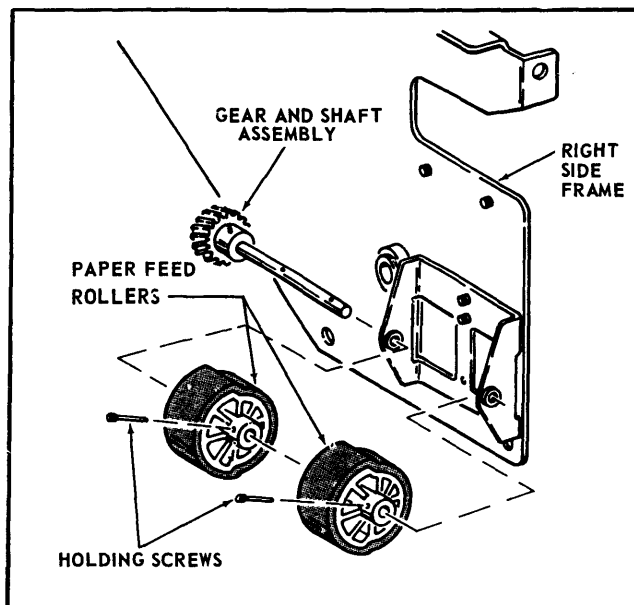

Figure 6.
- J. If the Feed Rollers are attached with Holding Screws remove the Holding Screw from each Roller and pull the Paper Feed Roll Gear And Shaft Assembly out of the Frame Assembly. The Rollers will slide off the Shaft. See Figure 6.
A. If the original Feed Rollers were attached with Holding Screws, insert the Paper Feed Roll Gear And Shaft Assembly into the hole in the Shaft mounting tab on the Right Side Frame Assembly. See Figure 6.